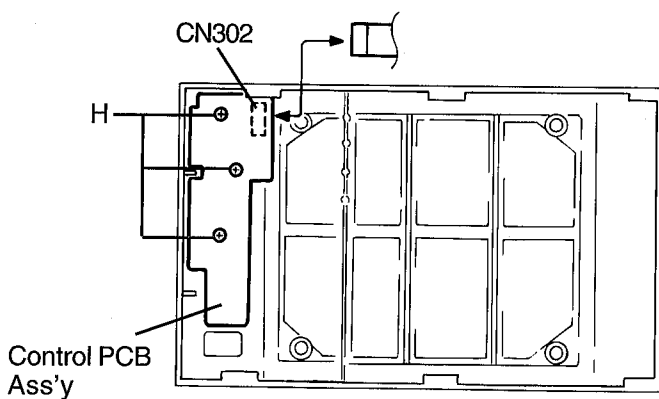

Fig.2-7
■ Removing the Control PCB Ass'y (Refer to Figs. 2-7, 2-8)
4. Remove the three screws (H) securing the control PCB ass'y.